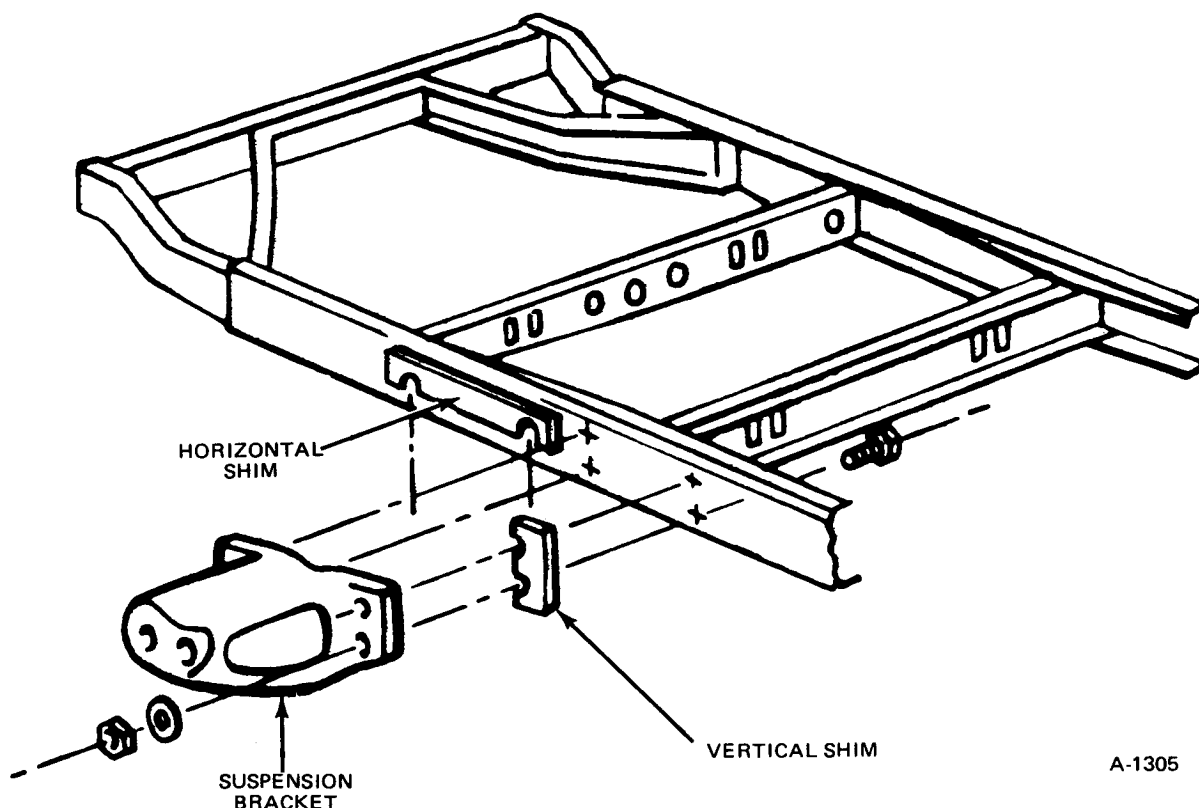

Figure 2 – Installing Rear Suspension Shims
If toe-in is not correct, it must be shimmed as shown in Figure 2. Follow this procedure for adjustment.
3. Insert proper shims as shown in Figure 2.
Camber is adjusted by shimming as shown in Figure 2. Following the same shimming procedure as that used before to set toe-in.